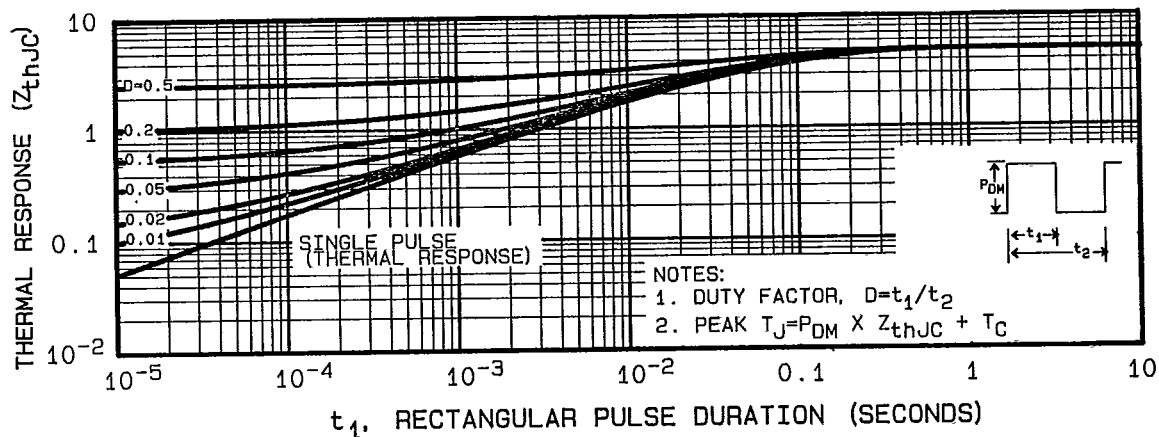

Fig. 5 - Maximum Effective Transient Thermal Impedance, Junction-to-Case Vs. Pulse Duration
- ① Repetitive Rating; Pulse width limited by maximum junction temperature (see figure 5)
- ② @  $V_{DD} = 25\text{V}$ , Starting  $T_J = 25^\circ\text{C}$ ,  $L = 100\mu\text{H}$ ,  $R_G = 25\Omega$ , single pulse.
- ③  $I_{SD} \leq 8.2\text{A}$ ,  $dI/dt \leq 130\text{A}/\mu\text{s}$ ,  $V_{DD} \leq 40\text{V}$ ,  $T_J \leq 150^\circ\text{C}$ , Suggested  $R_G = 24\Omega$
- ④ Pulse width  $\leq 300\mu\text{s}$ ; Duty Cycle  $\leq 2\%$
- ⑤  $\text{K/W} = ^\circ\text{C/W}$ ,  $\text{W/K} = \text{W}/^\circ\text{C}$
- ⑥ Mounting pad must cover heatsink surface area. See case style drawing on front page.